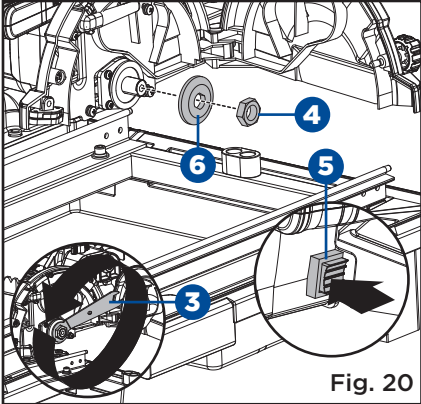

Fig. 20
- Using arbour nut wrench provided (3), loosen arbour nut (4) while pressing arbour lock (5) (located on inside of motor head assembly). (Fig. 20)
- Remove arbour nut (4) and outer washer (6), leaving inner washer on the arbour. (Fig. 20)